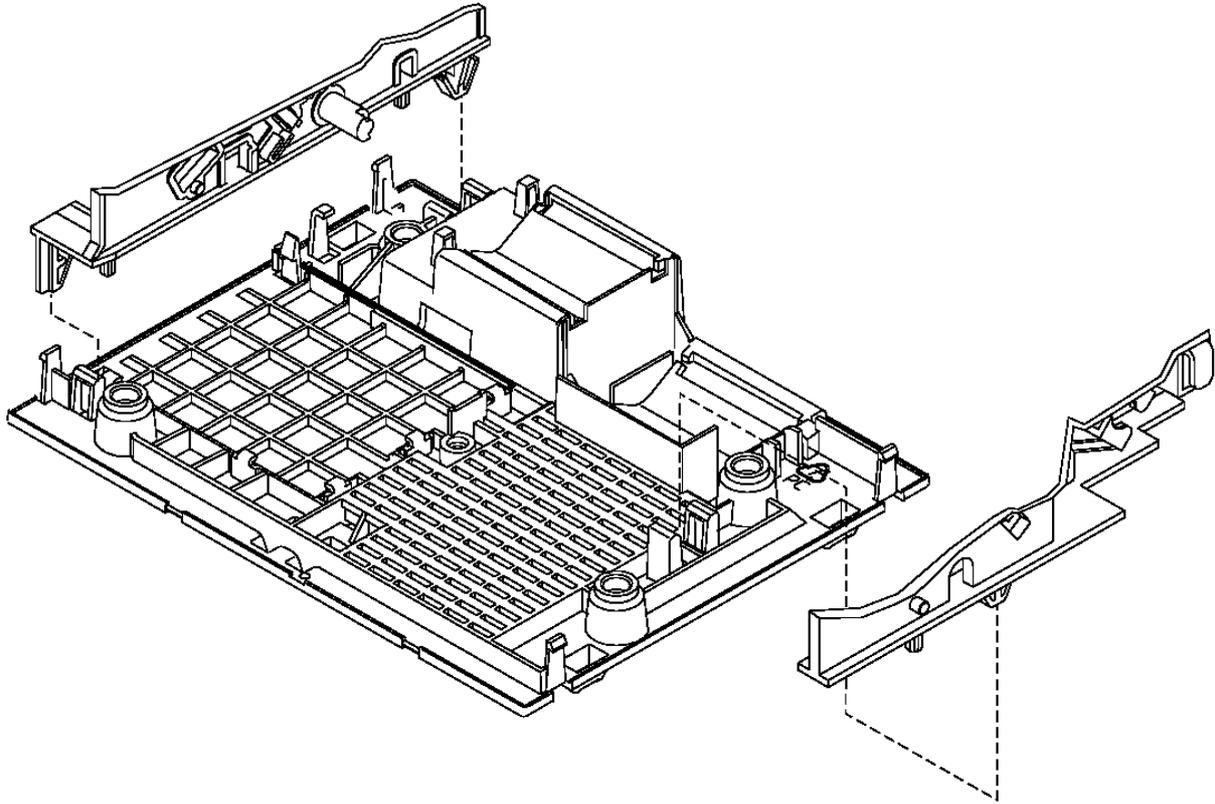

Figure 6-51. Base. The base has been disassembled beyond what is necessary for this procedure in order to illustrate how it attaches to the printer frame.
2. Align the holding tabs on the printer assembly over the corresponding receptacles in the base as shown in Figure 6-51.